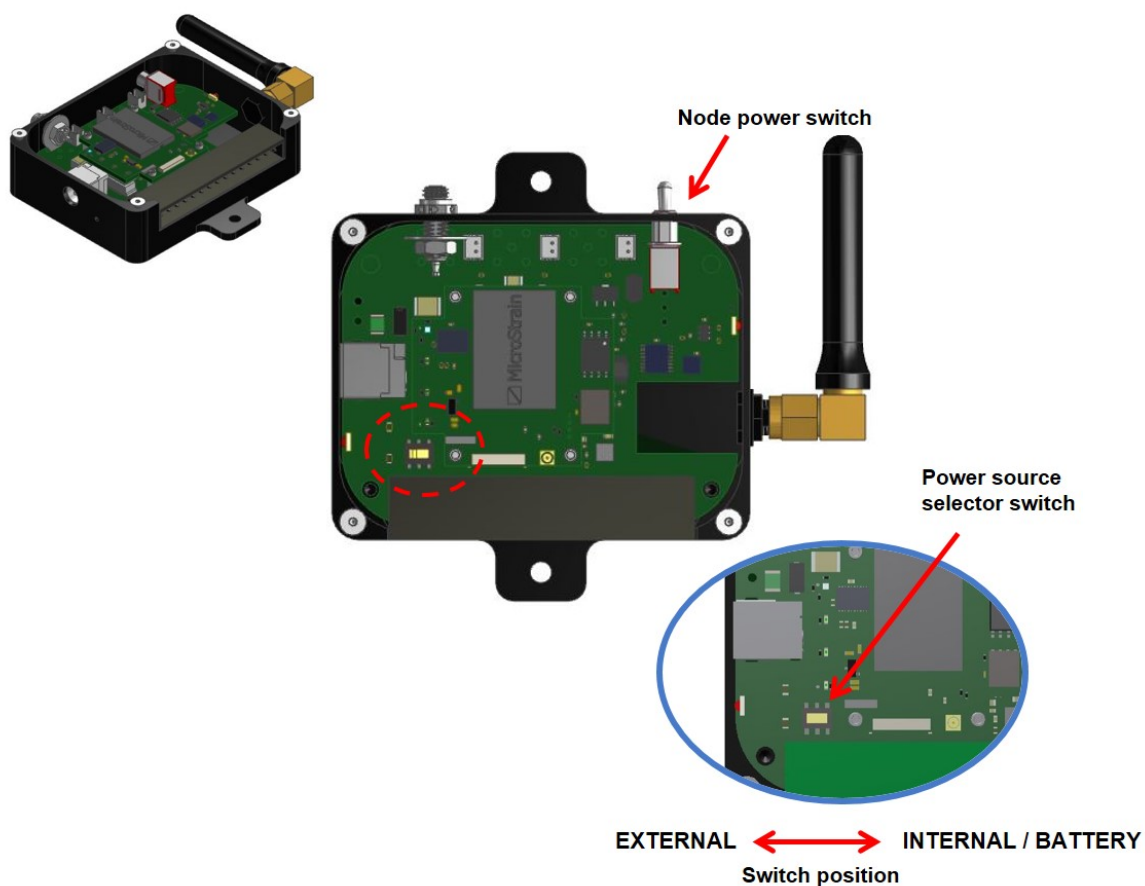

Figure 27 - Power Source Selection
3. Use a small flat-head screwdriver to push the recessed switch fully to the desired position, as indicated in Figure 27 - Power Source Selection. The figure shows the node configured for an external power source.